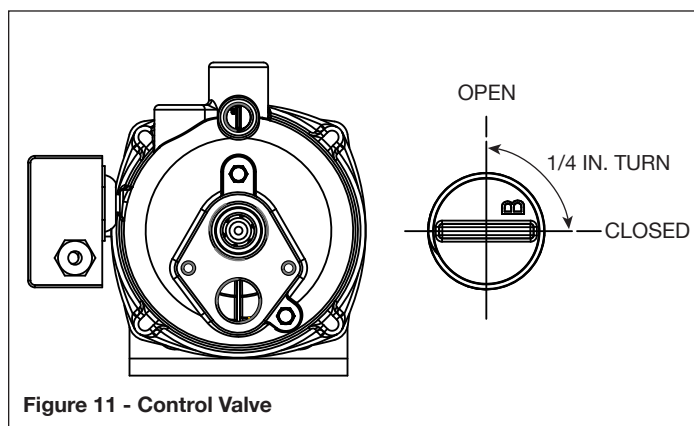

Figure 11 - Control Valve
NOTE: When the deep well pump is used with the bolt-on shallow well jet, be sure the control valve slot (Figure 11) is in the vertical (open) position at all times.
4. Close the control valve (Figure 11) and open a nearby faucet.